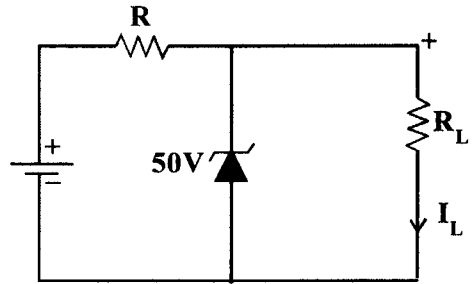

Fig 2.36 For Problem 2.37
- (a) The Zener Diode regulates at 50V over a range of diode current from 5 mA to 40 mA. Supply voltage $V = 200V$. Calculate the value of R to allow voltage regulation from a load current $I_L = 0$ upto I_{max} ; the maximum possible value of I_L . What is I_{max} ? (Fig. 2.36)